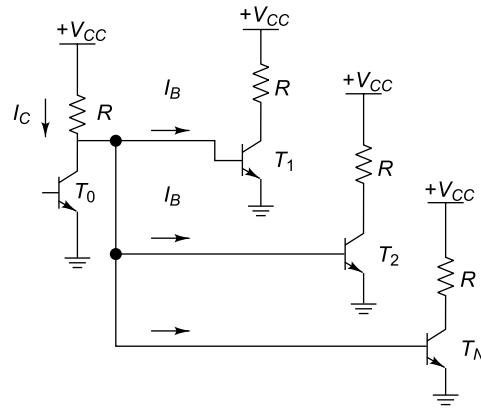

Fig. 6.48 Circuit of Ex. 6.29
6.29 Determine fan-out of transistor T_0 as shown in Fig. 6.48. Consider $V_{CC} = 5$ V, $R = 20 \text{ k}\Omega$, $I_B = 0.1 \text{ mA}$ for saturation.